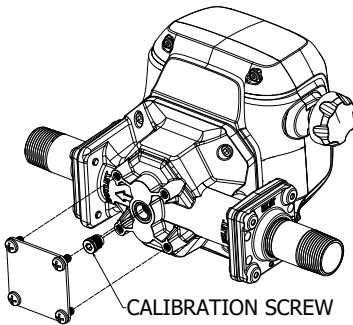

figure 4
1. To adjust the calibration of the meter, gain access to the calibration screw by performing the following: (see *Figure 4*)
2. Remove the back plate and the (4) screws retaining it. The O-ring seal under the plate must not be damaged.